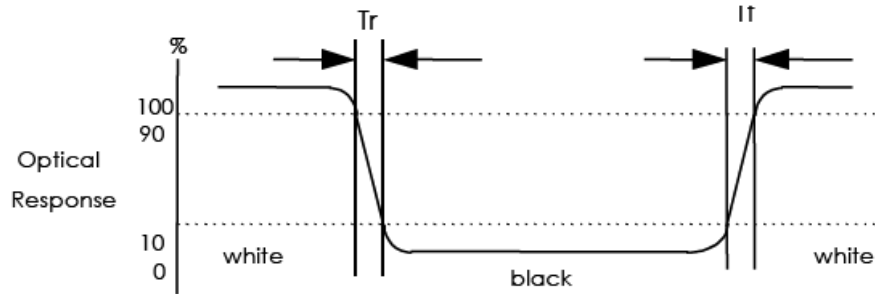

FIG. 2 Measuring method for Contrast ratio, surface luminance, Luminance uniformity , CIE (x, y) chromaticity
| Contrast ratio | Cr | | 250 | 400 | - | --- | FIG 2. | 1 |
| Luminance uniformity | δ WHITE | | 70 | - | - | % | FIG 2. | 3 |
| Surface Luminance | Lv | | 680 | 850 | - | cd/m ² | FIG 2. | 2 |
| CIE (x, y) chromaticity | White | x | 0.249 | 0.299 | 0.349 | | FIG 2. | 5 |
Note 1. Contrast Ratio(CR) is defined mathematically as For more information see FIG 2.
Note 2. Surface luminance is the LCD surface from the surface with all pixels displaying white. For more information see FIG 2.
Note 3. The uniformity in surface luminance , δ WHITE is determined by measuring luminance at each test position 1 through 5, and then dividing the maximum luminance of 5 points luminance by minimum luminance of 5 points luminance. For more information see FIG 2.